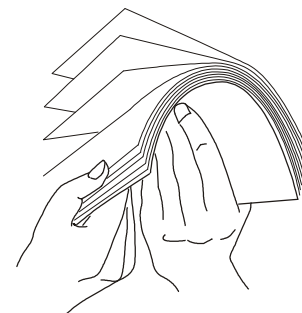

Fig. 25 Fanning the Paper
- Obtain a fresh ream of paper. Hold the ream on the long edge and bend it in and out. Repeat on the short edge. Square it off properly (Fig. 25).